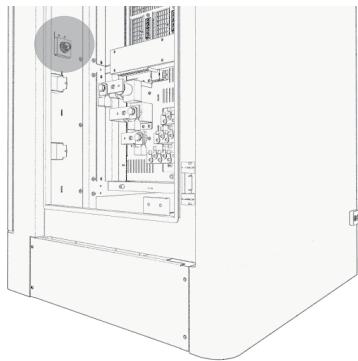

Figure 5-15 DC 180 Ethernet Port
- C.** Identify the Ethernet port on the charger. It is located on the left side of the charger (see Figure 5-15 DC 180 Ethernet Port).